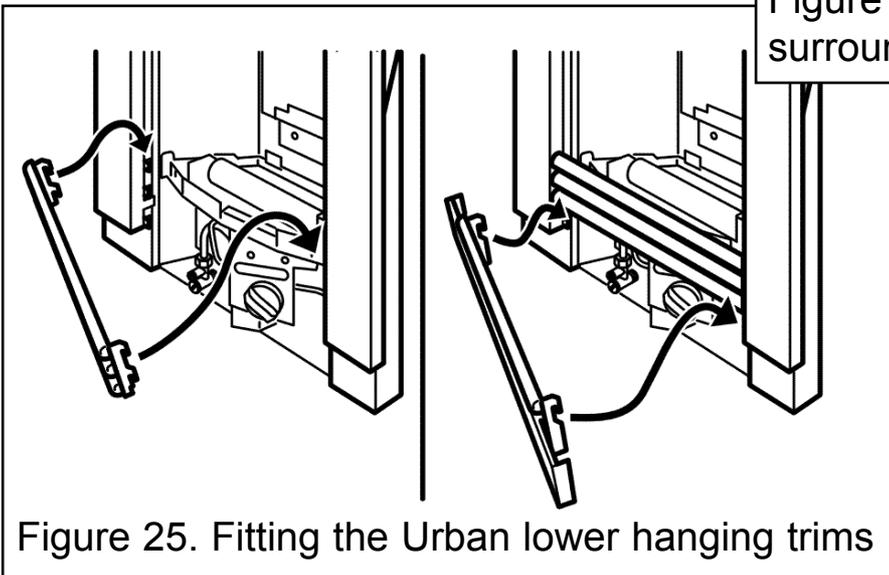

Figure 25. Fitting the Urban lower hanging trims
2. Fit the lower hanging trims to the surround (Figure 25)